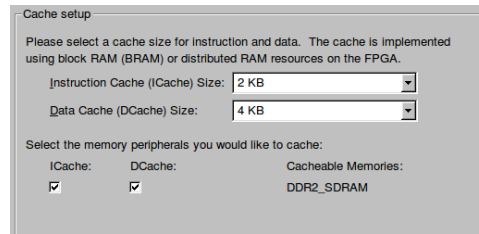

Figure 5: Cache Setup
- (f) In the 'Cache Setup' window, specify the 'ICache' and 'DCache' options for DDR2_SDRAM. See Figure 5 As with the local processor memory, there are separate caches for instructions and data (i.e. Harvard Architecture). For performance reasons, we want to cache both data and instruction accesses for programs residing within the DDR2 SDRAM. Notice that the local memory, which is used for the boot loader, is not listed as a cache-able memory. This is because both local memory and cache are constructed from BRAMs. Therefore, they operate at the same speed.